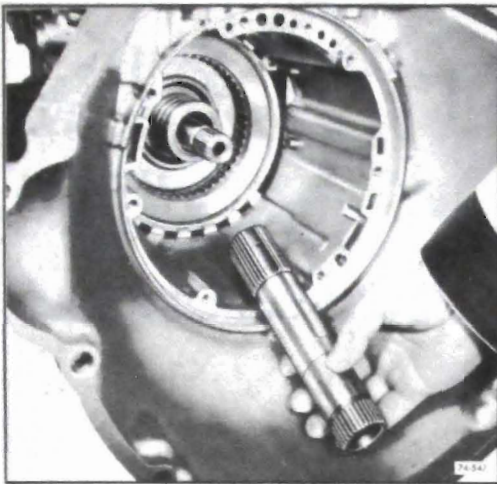

Figure 76-547
9. Remove sun gear shaft. See Figure 76-547.